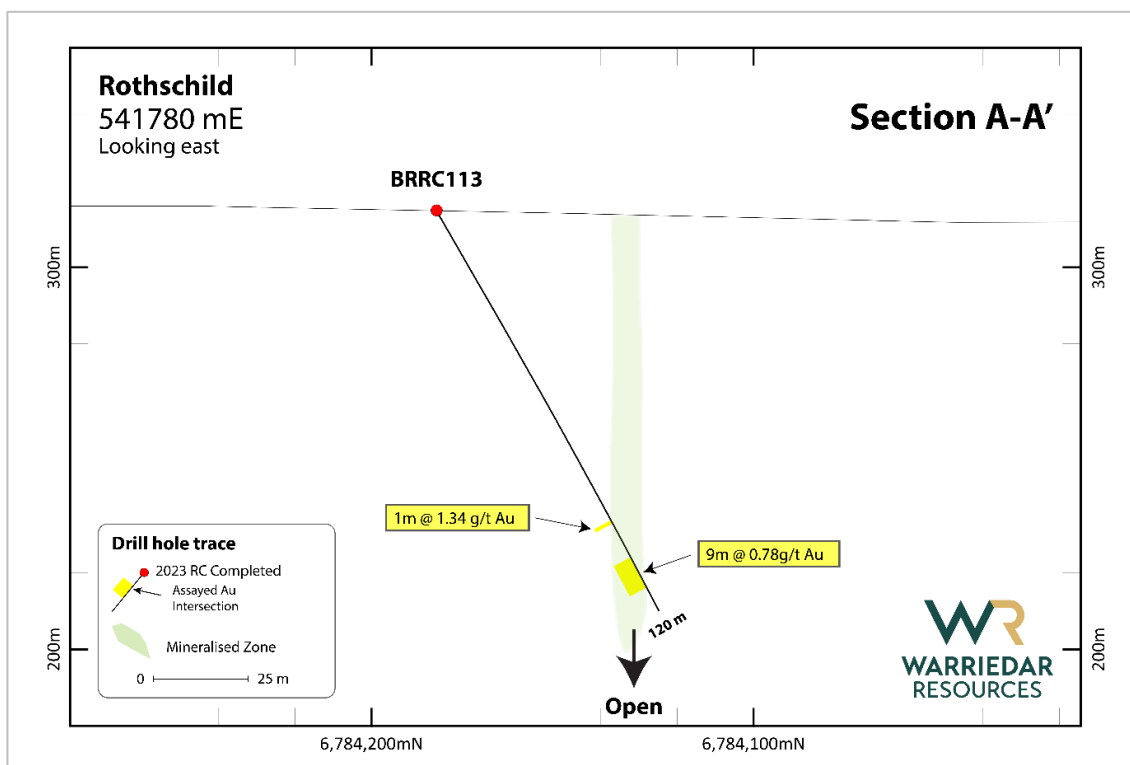

Figure 7: Cross section A-A' through the new Southern lode. See Figure 2 for location.
- **Southern lode:** drilling has confirmed the existence of a second major lode, the Southern Lode. The Southern Lode is located to the south of the Main Lode (see Figure 7, Cross Section A-A').
Drilling has identified the newly emerging southern lode, see Figure 7 (Cross Section A-A'). There are significant intercepts in holes BRR0112 and BRR0113, demonstrating the initial delineated strike extent of the lode. Based on the results released, holes BRR0108 and BRR0109 are likely to be re-entered and extended.